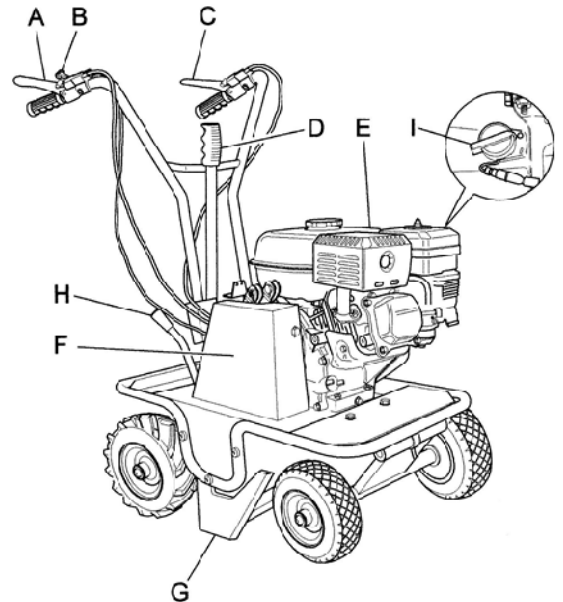
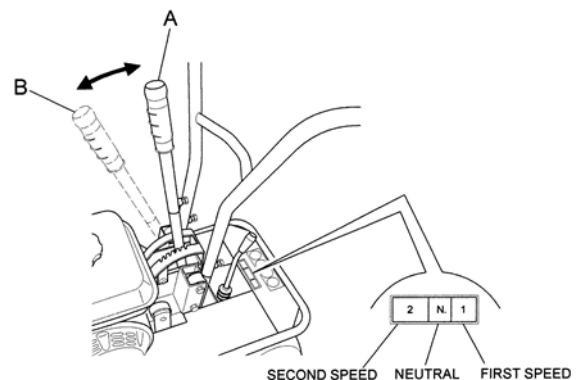
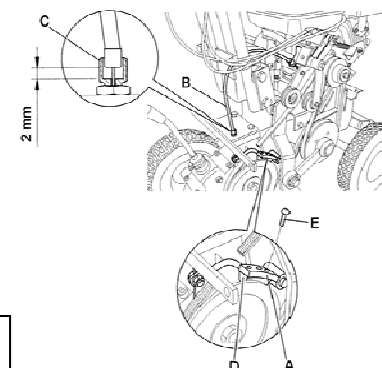

Fig. 1
Fig. 2
Fig. 9
This lever serves to adjust the cutting height according to the type of terrain and the thickness of the turf to be cut. (Fig.2 Ref. A)
The cover (Fig. 1, ref. F) prevents any contact with the moving parts of the machine. Use of the machine without the said cover is strictly prohibited.
**WARNING: Select the required gear only after disengaging the forward clutch by releasing the relative lever (fig. 1, ref. C).**
1. Move the gear lever (fig.2) to the 1st speed position
2. Engage the blade control level using the relative lever (Fig. 1, ref. A)
3. To move the machine, accelerate and then engage the forward clutch using the relative lever (Fig. 1, ref. C).
4. To select a different gear the forward clutch and the blade clutch must first be disengaged by releasing their levers (Fig. 1, ref. C and Fig. 1, ref. A). Then select the desired FORWARD position (in fig. 2) using the gear lever (Fig. 2), then re-engage the forward clutch control lever (Fig. 1, ref. C) to set the machine in motion again.
5. To stop the blade release the relative lever (Fig. 1 ref. A)
6. To stop forward movement of the machine release the relative le.1, ref. C) Then switch off the engine by moving the switch to the position (O) as shown in figure 1, ref. I.
- 2) At first the setting of a relatively high cutting height is recommended (using the relative lever in figure 2, ref. A), lowering it gradually according to working conditions.
- 3) Engage the blade clutch (Fig. 1, ref. A) only after having carried out the machine switch on and gear engagement operations.
- 4) Before engaging the blade clutch (Fig. 1, ref. A), gradually move the accelerator (Fig. 1, ref. B) until the required speed is reached
-Remove the blade (Fig.1 Ref. G) following the instructions provided in the section entitled "Blade removal and replacement".
The service brake (Fig. 9 Ref. A) is connected to the forward control lever (Fig. 1 Ref. C).
With the forward control lever released and the brake engaged ensure that there is play of approximately 2 or 3 mm between the adjustment screw and the brake cable (Fig. 9 Ref B and C)
**Make sure** that the front part of the brake in direct contact with the pulley (Fig. 9 Ref. D) is not worn. If so, replace it.